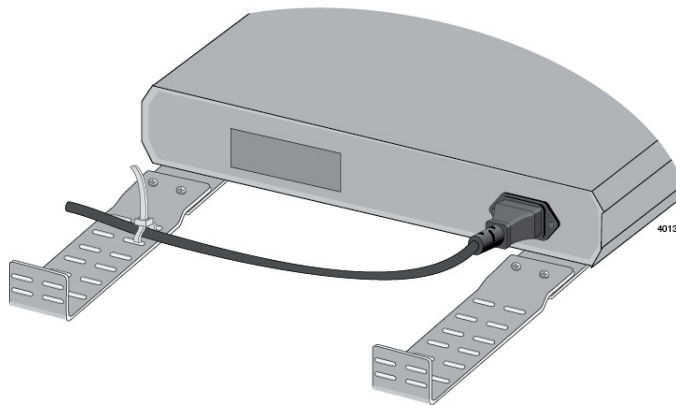

Figure 39. Securing the Power Cord Using a Tie-wrap
9. Use a tie-wrap to secure the power cord, as shown in Figure 39.